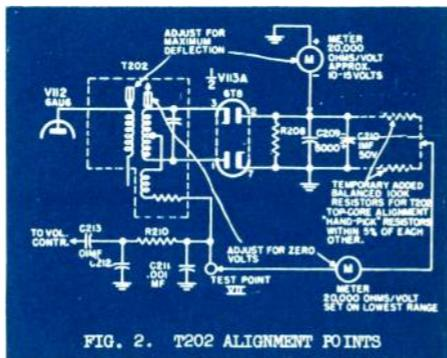

FIG. 2. T202 ALIGNMENT POINTS
2. Figure 2 shows a simple resistor network needed for the alignment of T202 secondary. These